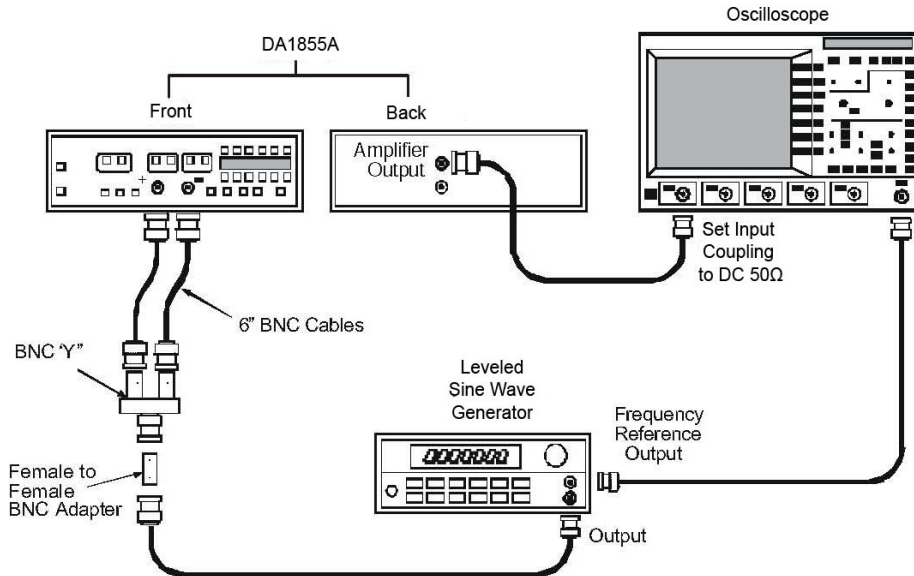

Figure 21, LF CMRR Test Setup 2.
8. Connect the two free ends of the 6" BNC cables to the +INPUT and -INPUT of the DA1855A. Refer to Figure 21.
11. Set the oscilloscope to display channel 1, coupling to DC and impedance to 50 Ω and the vertical sensitivity as necessary to measure the amplitude of the displayed waveform. Refer to Figure 21.
21. Remove the sine wave generator output cable and reconnect it to the female to female BNC adapter and cables attached to the DA1855A inputs. Refer to Figure 21.